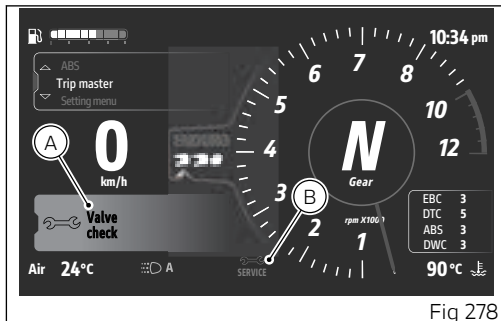
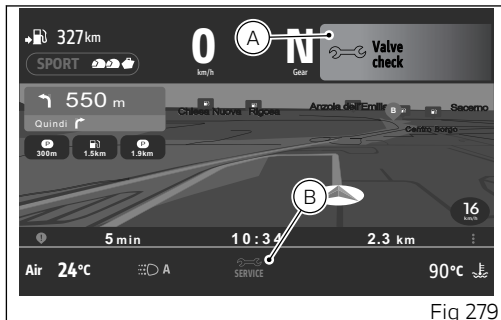

Fig 278
Fig 279
Service coupon deadline warnings are displayed in 2 modes: big (A) and small (B). These figures indicate the corresponding positions in the main page (Fig 278) and in the Ducati Connect page (Fig 279).